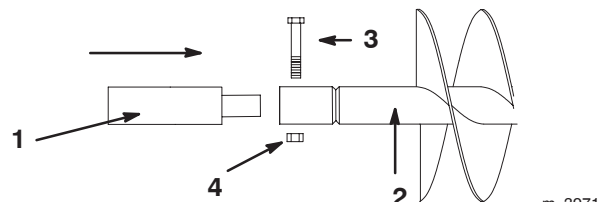

Figure 3
5. If using an extension with the auger, insert the end of the extension into the end of the auger and secure the auger to the extension with a bolt (7/8 x 4-1/2 inch) and nut (7/8 inch) (Fig. 3).